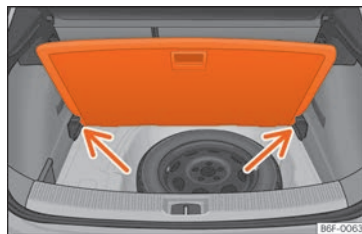

Fig. 148 Variable boot floor: tilted position.
- Rest the floor on its housings » Fig. 148 (arrows).